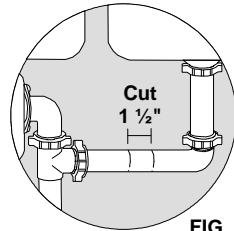

FIG. 7
1. Measure the midpoint on the horizontal waste ell and cut out 1-1/2-inch of tubing. (See Fig. 7)